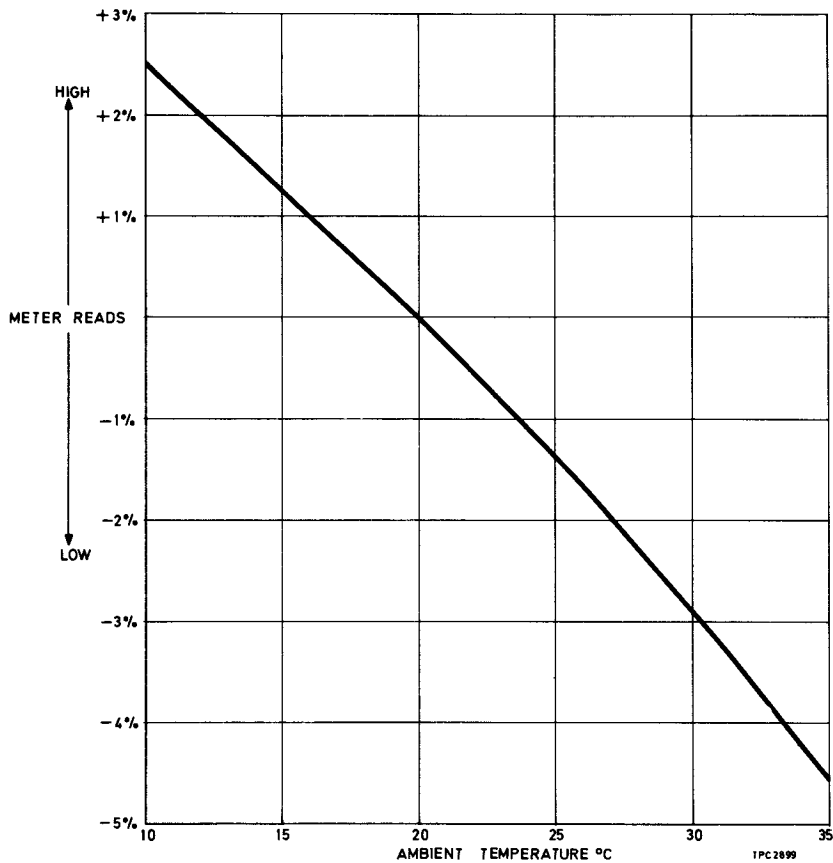

Fig. 3 Temperature correction chart
#### Temperature correction (Fig. 3)
10. Wattmeters of this type are calibrated in such a manner that optimum accuracy is obtained when the ambient temperature is 20°C (68°F). A typical temperature/accuracy chart, Fig. 3, may be used to obtain greater accuracy at other ambient temperatures. Protected power measurement will cause an air-temperature increase within the instrument, leading to long-term drift. All measurements should, therefore, be made as rapidly as possible. For greater accuracy time should be allowed between measurements for the meter to revert to ambient temperature, as described in para. 9.